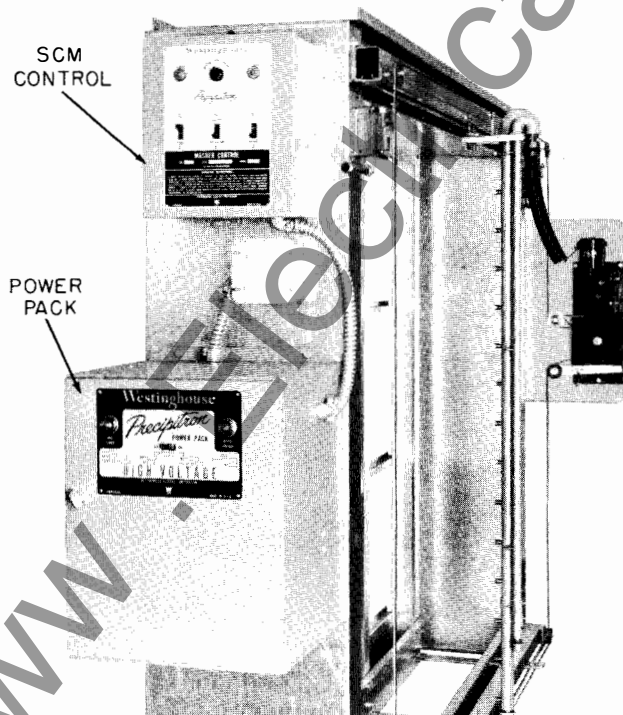

Fig. 18 --- Control and Power Pack Mounting (Small Units)
**CONTROL PANEL AND POWER PACKS** should be installed outside the duct adjacent to the power end sheet (and duct doors). For smaller size units these items may be mounted directly on the power end sheet as shown in Figure 18. For larger size units equipped with two or more power packs and the larger size SCP Control, best layout will be to locate these items on an adjacent building wall or a suitable mounting stand. Power packs should be grouped together to facilitate service and inspection. Allow at least 6" space vertically between power packs if mounted one above the other. Be sure the power packs are not mounted too far away from the power end sheet. Additional high voltage cable will be required if cable run to the power end sheet exceeds 25 ft.